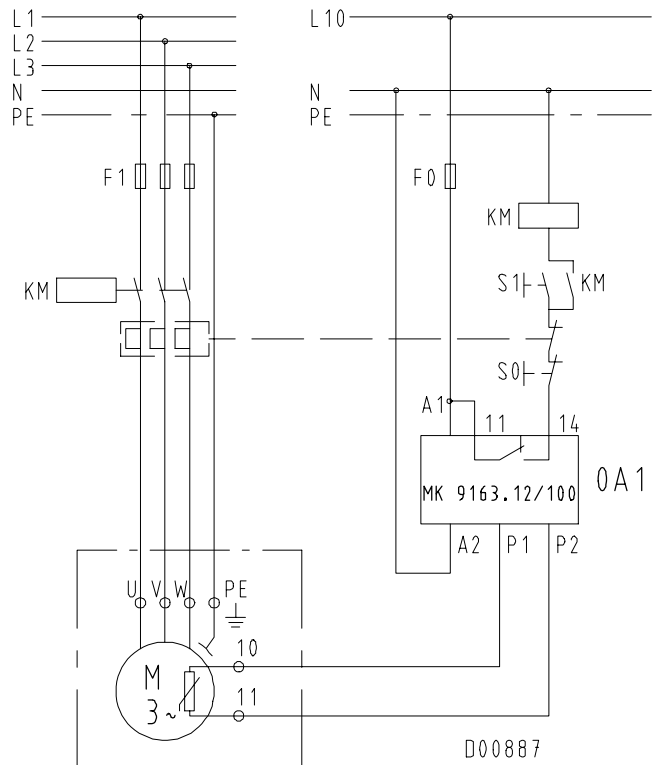

Fig. 1 Standard wiring diagram
- **PTC tripping unit** (connection see fig. 1)